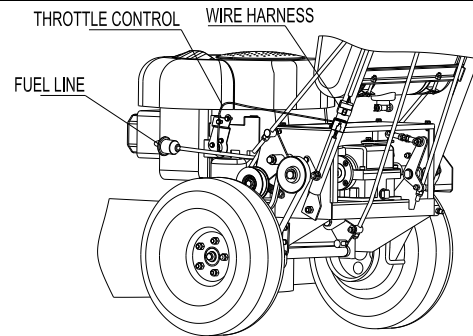

FIG 5
- Attach the handle with four M10×25 Flange Hd Bolts and a M10 locknut on each side as shown in FIG 5.
- The Throttle Cable must be attached to the engine according to the Engine Operator's Manual. The Fuel Tank Line connects to the line of the engine. (The positions of Fuel Filter and Throttle Cable Attachment are a bit different on different models of Engines.) See FIG 5